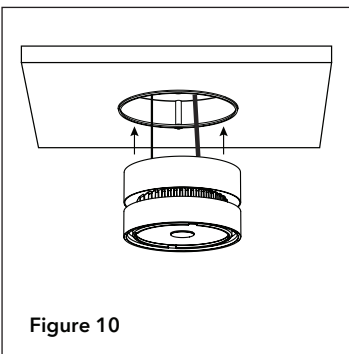
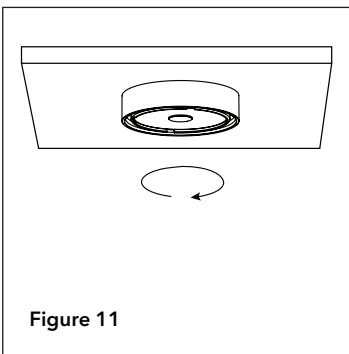

Figure 10
Figure 11
10. Insert luminaire into mud ring opening (Fig. 10). Turn luminaire clockwise (Fig. 11) until you hear a distinct click indicating that tabs are locked into position as shown in Fig. 12.